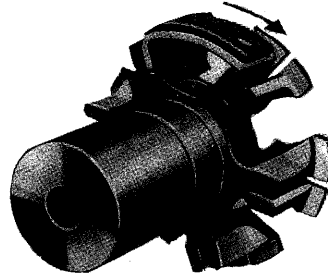

Fig. 12
- 2) The clutch shoes must be pushed (and not pulled) by the driving plate. They must fit in the slot of the driving plate. See Fig. 12.